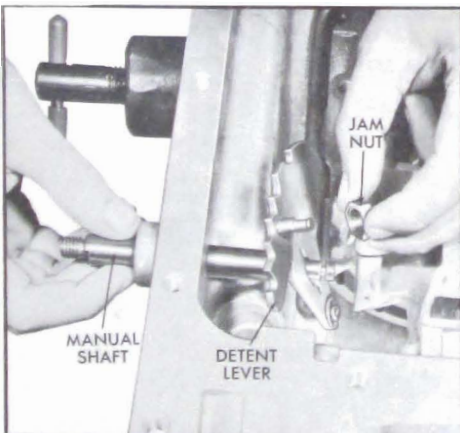

Figure 5-730
6. Install the retaining hex-lock nut on the manual shaft. See Figure 5-730.